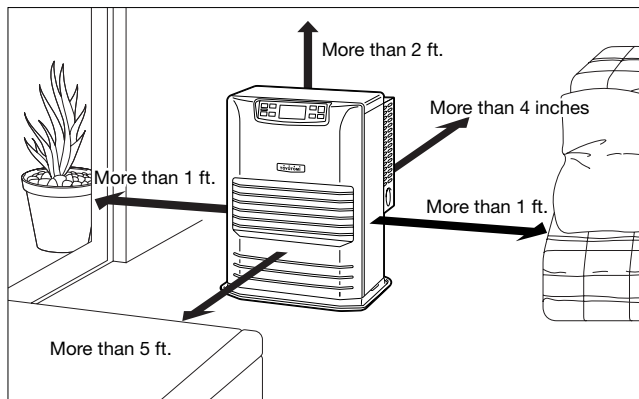

Fig. 1
1. Select heater location. Allow clearances as indicated below between heater and all other materials. (See Fig. 1)